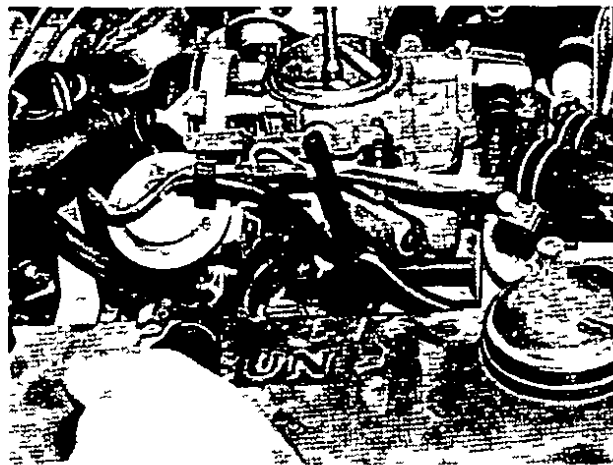
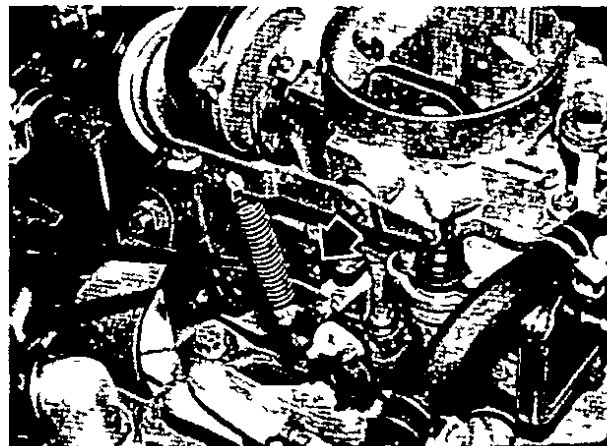

Fig 41 Idle speed screw – Model B210
Fig 42 Idle speed screw – Models 610 and 710
- 6 *Adjust idle speed* by turning idle speed screw until the engine idle is at recommended speed listed in the Tune-up Specifications chart For idle speed screw location on B210 models, see Fig 41 For models 610 and 710, see Fig 42